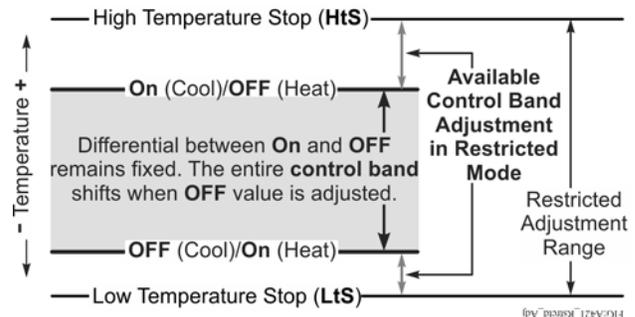

Figure 9: Adjustment Behavior in Restricted Adjustment Mode
Restricted Adjustment Mode: The HtS and LtS values define the restricted adjustment temperature range and are enforced only when the A421 control is set to the restricted adjustment mode (Figure 9). See *Restricting User Adjustment*.
You can restrict user adjustment of the A421 control to either just OFF value (control band) only and limit the range of this value (Figure 9).
- The **OFF** value can only be adjusted to values that maintain the entire control band within the restricted temperature adjustment range defined by HtS and LtS. See Figure 9.
2. Select the **OFF** and **On** values that define the application's required control band (Figure 9).
3. Change the **HtS** and **LtS** temperature values to define the restricted adjustment range (Figure 9).